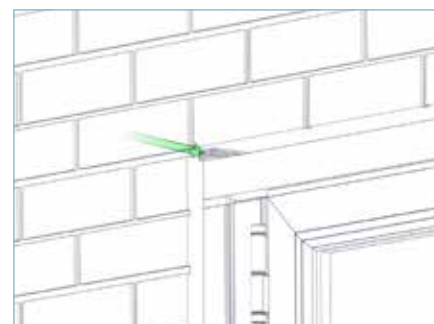

FIG 4C
- ▶ **4.7.** Install the outer frame and insert frame packers above the top track at each end, compressing tracks, jambs and cill (if fitted), together closing all unwanted gaps and temporarily holding the frame in position as shown in FIG 4C.